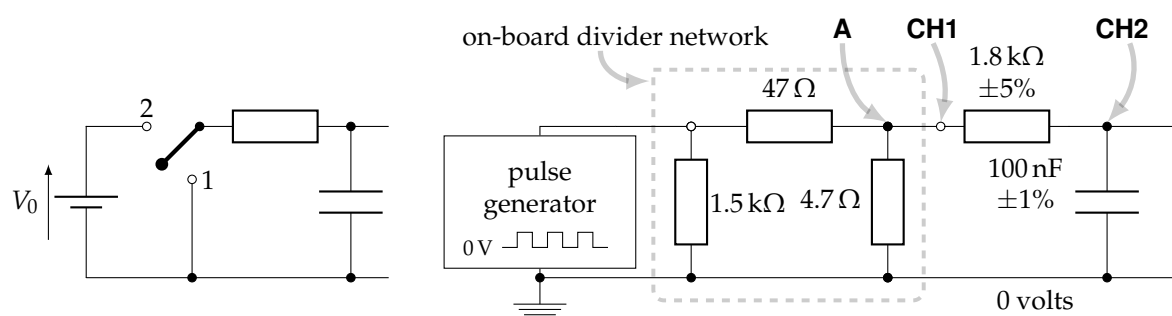

Figure 2: Switching circuit to test the model (left), drawn to help you make up the circuit (right).
Look at the left-hand diagram in figure 2. We could apply a voltage that steps from zero to V_0 and then from V_0 back to zero (a *pulse* voltage) with this circuit by moving the switch abruptly to position 2 and then back again. But to see what happens on our oscilloscopes we need to keep applying voltage steps; we need a *train of pulses*. This can be obtained from the signal generator by selecting square wave output with a 'Low' value of zero, and a 'High' value equal to the pulse-height wanted. (This can also be done by selecting the pulse output, which allows the duty cycle to be controlled). However, the output (internal) resistance is not negligible ($50\ \Omega$), so to reduce the effect of this on your measurements, we use a resistive divider network on the board, as shown in the diagram on the right-hand side in figure 2. This reduces the output impedance of the pulse source to close to $4.6\ \Omega$ (but at the price of reducing the amplitude of the pulse). The point 'A' in figure 2 is also labelled 'A' on the circuit board.
Connect the circuit as shown in figure 2, with the two 'scope channels connected at **CH1** and **CH2** in the diagram. Use 'scope probes and remember to calibrate them, see section 2.5.4 of the Manual. Also recall that all the ground leads from the probes must go to the conductor defined to be 0 V earth. Set the 'scope probe attenuation to $\times 10$ (yellow and blue buttons, "Probe Voltage" menu), trigger from channel 1 and set both inputs to DC coupled. On your AFG make sure that the square wave symbol is illuminated, that the "Low" level is zero and the "High" level is set to 5 V. Choose a pulse length long enough for V_2 to reach a steady value before the next voltage step comes along. Observe and sketch the voltages V_1 (on channel 1) and V_2 (on channel 2).
► What would be the effect of removing the wire connected between position 1 of the switch and ground in figure 2 and replacing it with an inductor, L and the switch moved from position 2 to position 1? What would be a mechanical analogue of this circuit? What would happen if instead the inductor was put in series with the battery and the switch moved from position 1 to position 2?